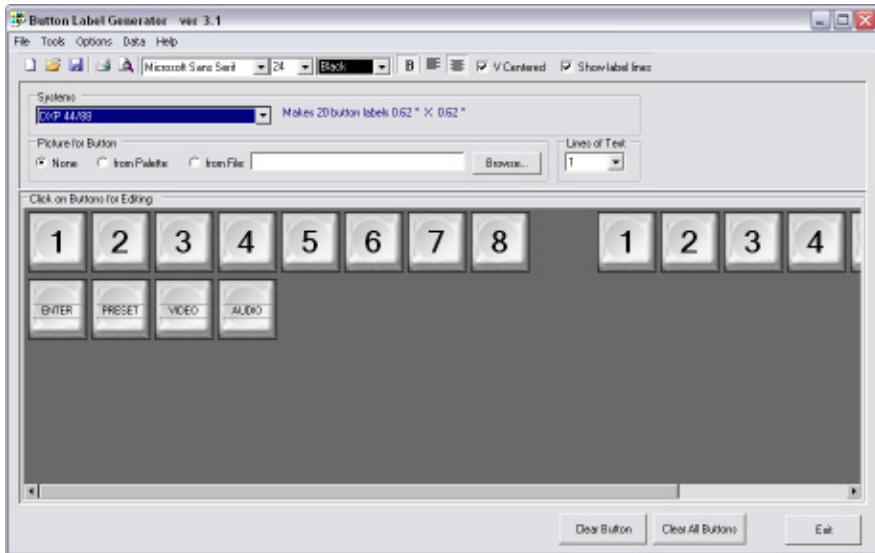

Figure 5-9 — Extron's Button-Label Generator window
1. To run the Button-Label Generator program, double-click on the Button-Label Generator icon (shown at right) in the Extron Electronics group or folder, and click OK when prompted. The Button-Label Generator window appears (figure 5-9).